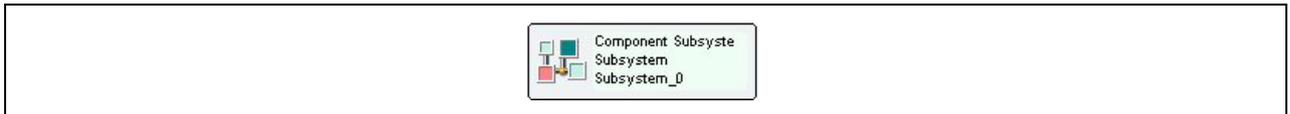

Figure 36: Subsystem
3. The subsystem (shown in Figure 36) is placed down in the tool and the component is now held within the subsystem.